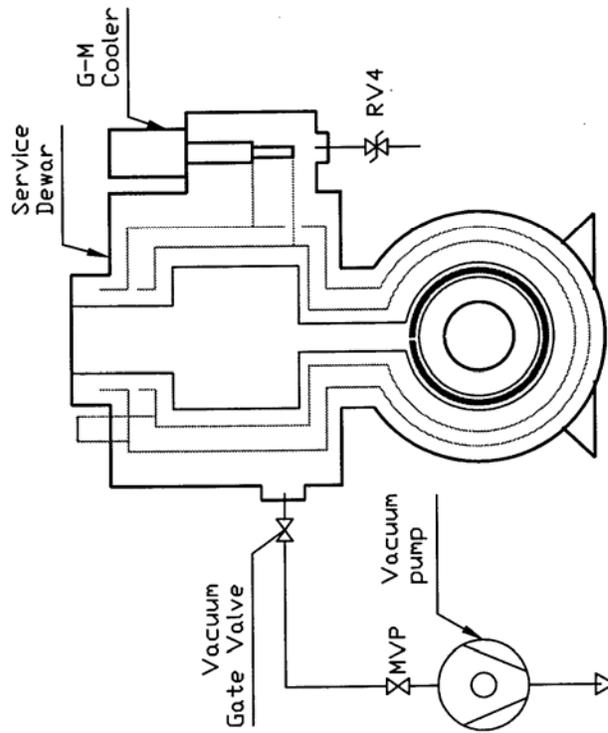

Figure 2
- 5.3.1 Connect LN2 dewar to helium vessel of service dewar with LN2 transfer hose according to Fig. 2.
8.4 Figure 2. Schematic for LN2 pre-cooling of SC magnet.